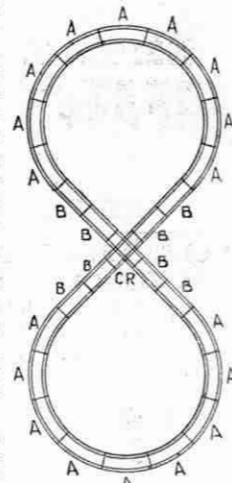

Fig. 9
By altering slightly the shape of this layout a Right-angle Crossing may be substituted for the Acute-angle Crossing. Fig. 9 shows the modified arrangement. In addition to the Right-angle Crossing (CR) the rails required are 18 Curves (A2) and 8 Straights (B1) for the large radius rails; and 8 Curves (A1), 2 Half Curves (A½), 4 Half Straights (B½) and 4 Quarter Straights (B¼) for the small radius.